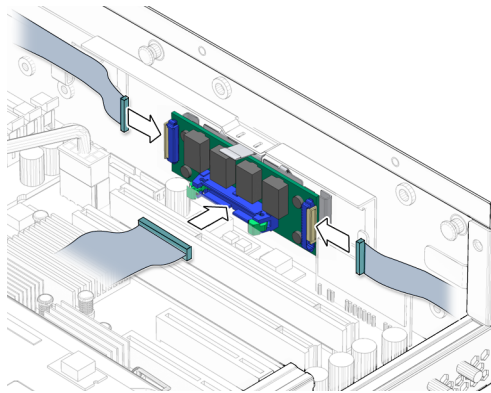

FIGURE 5-22 Connecting the Cables to the Alarm Board
4. Reconnect the cables to the alarm board at the following connectors (FIGURE 5-22):